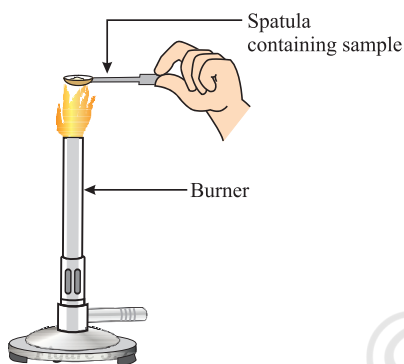

Figure 3.7
- Take a small amount of a sample on a metal spatula and heat directly on the flame (Fig. 3.7). Repeat with other samples.